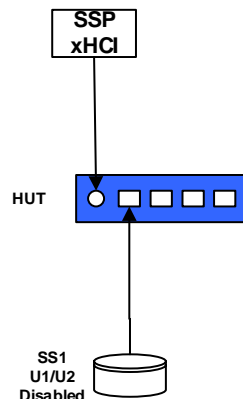

Figure 3-12: Hub and U1/U2 Disabled Device
- Attach tree to the host as shown in Figure 3-12.